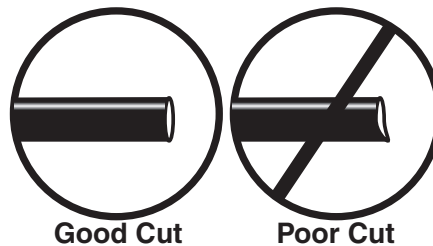

fig. 29
WHEN CUTTING OR TRIMMING THE AIR LINE, USE A HOSE CUTTER, A RAZOR BLADE OR A SHARP KNIFE. A CLEAN, SQUARE CUT WILL PREVENT LEAKS. DO NOT USE WIRE CUTTERS OR SCISSORS TO CUT THE AIR LINE. THESE TOOLS MAY FLATTEN OR CRIMP THE AIR LINE, CAUSING IT TO LEAK AROUND THE O-RING SEAL INSIDE THE ELBOW FITTING (FIG. 29)
- 7. Cut off the air line leaving approximately 12" of extra air line. A clean square cut will prevent leaks (see fig. 29). Insert the air line into the air fitting. This is a push to connect fitting. Simply push the air line into the 90° swivel fitting until it bottoms out (9/16" of air line should be in the fitting).
- a. Check the air line connection by deflating the spring and removing the line by pulling the collar against the fitting and pulling firmly on the air line. Trim 1" off the end of the air line. Be sure the cut is clean and square (see fig. 29). Reinsert the air line into the push-to-connect fitting.